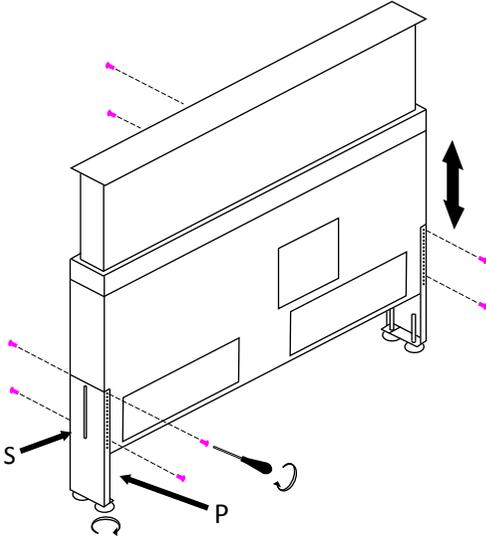

Fig 4
1. To install the hood adjust the height of the "S" foot supports in order to position the hood beneath the cooker top. Lift the hood with the "P" feet until the hood body enters the hole already cut in the cooker top (Fig 4). From the top, the hood height can be adjusted from 815mm to 950mm, by means of the feet and foot supports.